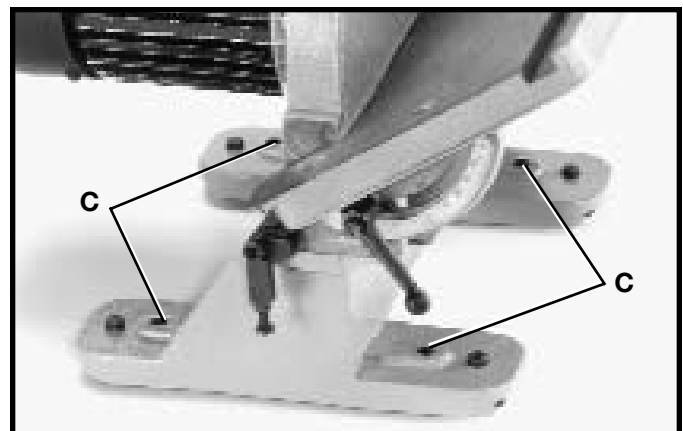

Fig. 4
IMPORTANT: IF DURING OPERATION THERE IS ANY TENDENCY FOR THE SANDER TO TIP OVER, SLIDE OR WALK ON THE SUPPORTING SURFACE, THE SANDER MUST BE SECURED TO THE SUPPORTING SURFACE USING FASTENERS THROUGH THE FOUR HOLES (C) FIG. 4.